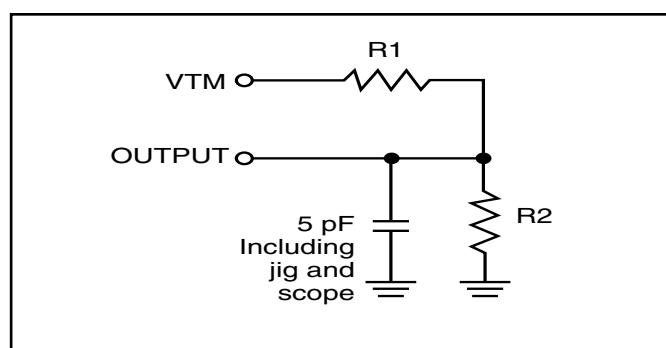

Figure 2.
2. Tested with the load in Figure 2. Transition is measured ± 500 mV from steady-state voltage.